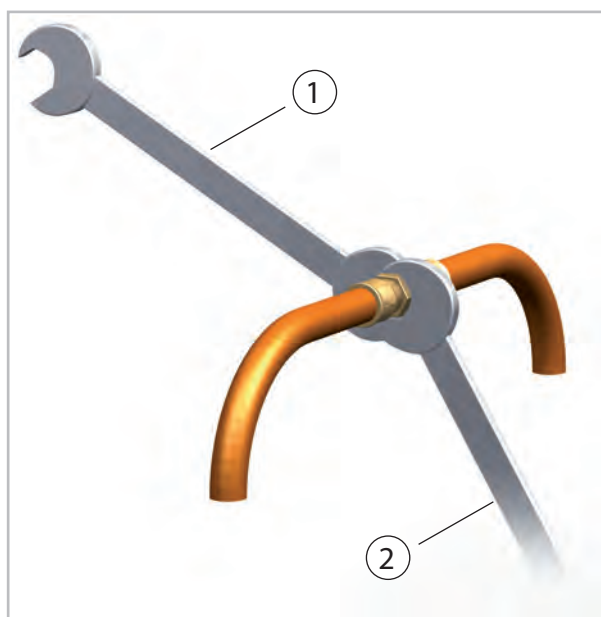

Fig. 31: Tightening the fitting
11. ➤ Then tighten the fittings with 2 appropriately-sized open-ended spanners. Use one spanner to counter the force when tightening the fitting (Fig. 31).